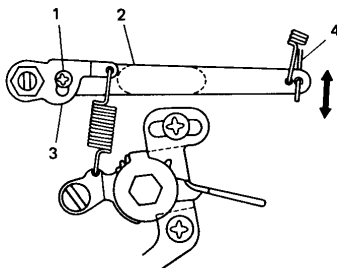

Fig. 23B
- a. First with the engine off, loosen screw A (1).
Pull up governor outer lever (2) and push down governor spring lever (3), at the same time retighten the screw A (Fig. 23B)